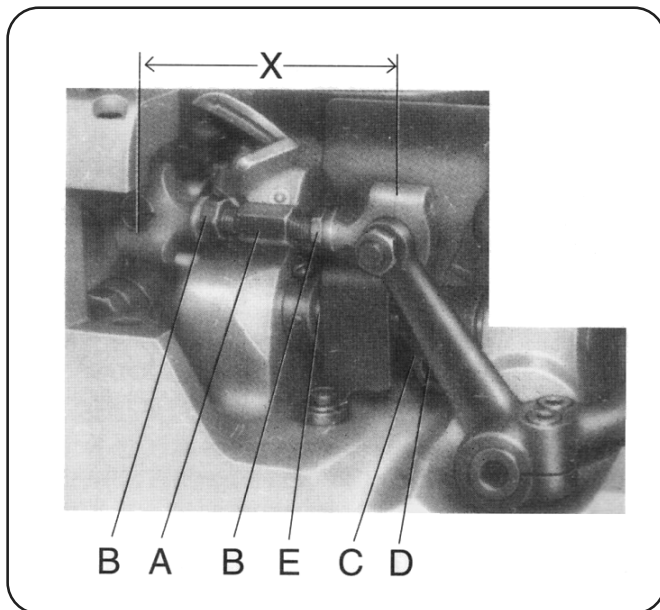
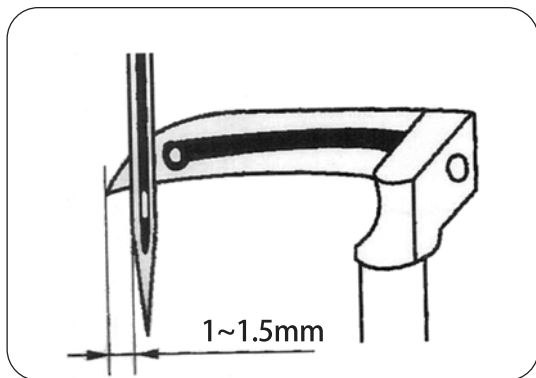
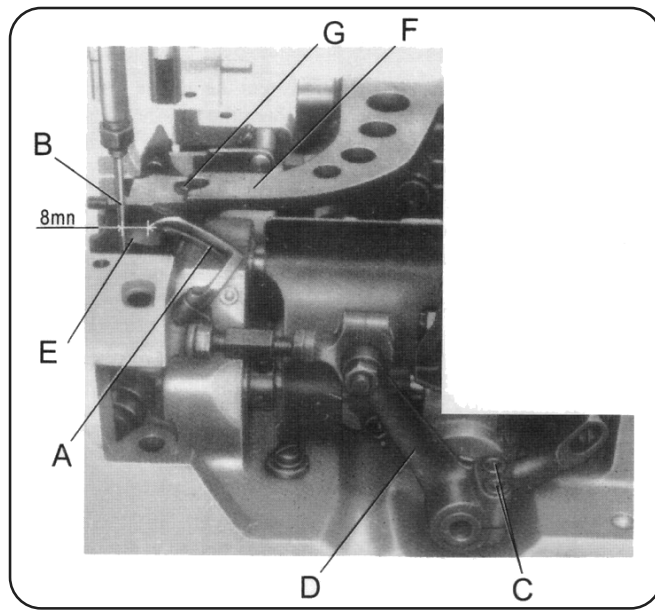
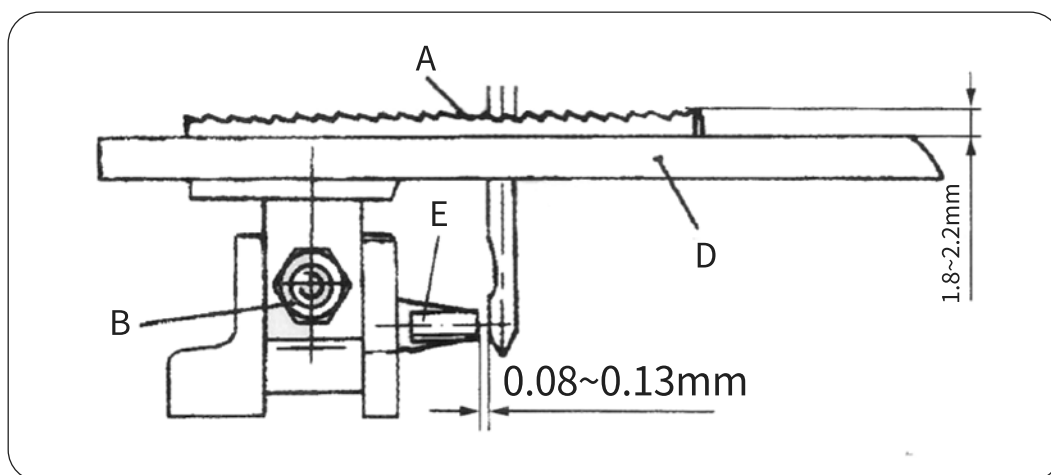

Fig.5
Fig.7
Fig.6
Fig.9
(1) Looper
- a. First, set the looper connecting rod A(Fig 5). So the distance X(Fig.5) between the centre lines of the two ball joints is 69.8mm. For adjustment, loosen the two nuts B and turn connecting rod A forward or backward as required to obtain specified dimension. Retighten nuts B.
- b. Rotate the machine pulley clockwise by hand, so that the needle bar moves to the lowest point, at the same time the looper moves back to its farthest position to the right. The distance from the point of the looper A (Fig. 6) to the centreline of the needle is 8mm. For adjustment, loosen two screws C in the looper drive lever, rotate looper drive lever D left or right as required to obtain specified dimension and retighten screws C.
- c. Rotate the machine pulley so that the looper A(Fig. 6) moves from right to left. The looper point should pass close as possible as the back of the needle without contacting, about 0.08-0.13mm(Fig. 7) clearance. For adjustment, loosen screw D(Fig 5) in the looper eccentric fork C and turn rocker shaft E on the looper rocker with the looper forward or backward as required. Then retighten screw D.
(1) 弯针调节
- b. 用手顺时针方向旋转皮带轮,使针杆下移到最低点,同时弯针退至最右边位置,此时弯针 A(图 6)的针尖和机针 B 的中心线距离为 8mm。调节时拧松弯针外曲柄的两只螺钉 C,左右摆动弯针外曲柄 D,调节至需要的尺寸后再拧紧螺钉 C。
- c. 继续转动皮带轮,使弯针 A(图 6)从右向左运行。通过机针背面的凹槽时,弯针与机针不得相碰,其间隙为 0.08mm-0.13mm(图 7)。调节时拧松弯针小偏心摇杆 C(图 5)的螺钉 D。将弯针作前后摆动,得到合适的间隙后,再拧紧螺钉 D。
The needle guard E(Fig .9)will protect the needle and prevent it from bending or breaking when the needle goes down The clearance between the needle and the needle guard is 0.08mm-0.13mm(Fig.9). For adjustment, rotating pulley in the direction of operating, so that the needle guard moves against the needle. Loosen set screw G on feed dog holder (Fig. 6), move the needle guard accordingly. Retighten screw G.
为了避免机针下刺时发生弯曲,护针块E(图9)可起到保护作用。两者的间隙为0.08mm~0.13mm(图9)。调整时将皮带轮往工作方向转动,使护针块最靠近机针时,拧松牙架F(图6)上的紧定螺钉G,移动护针块E至合适间隙后再拧紧螺钉G。